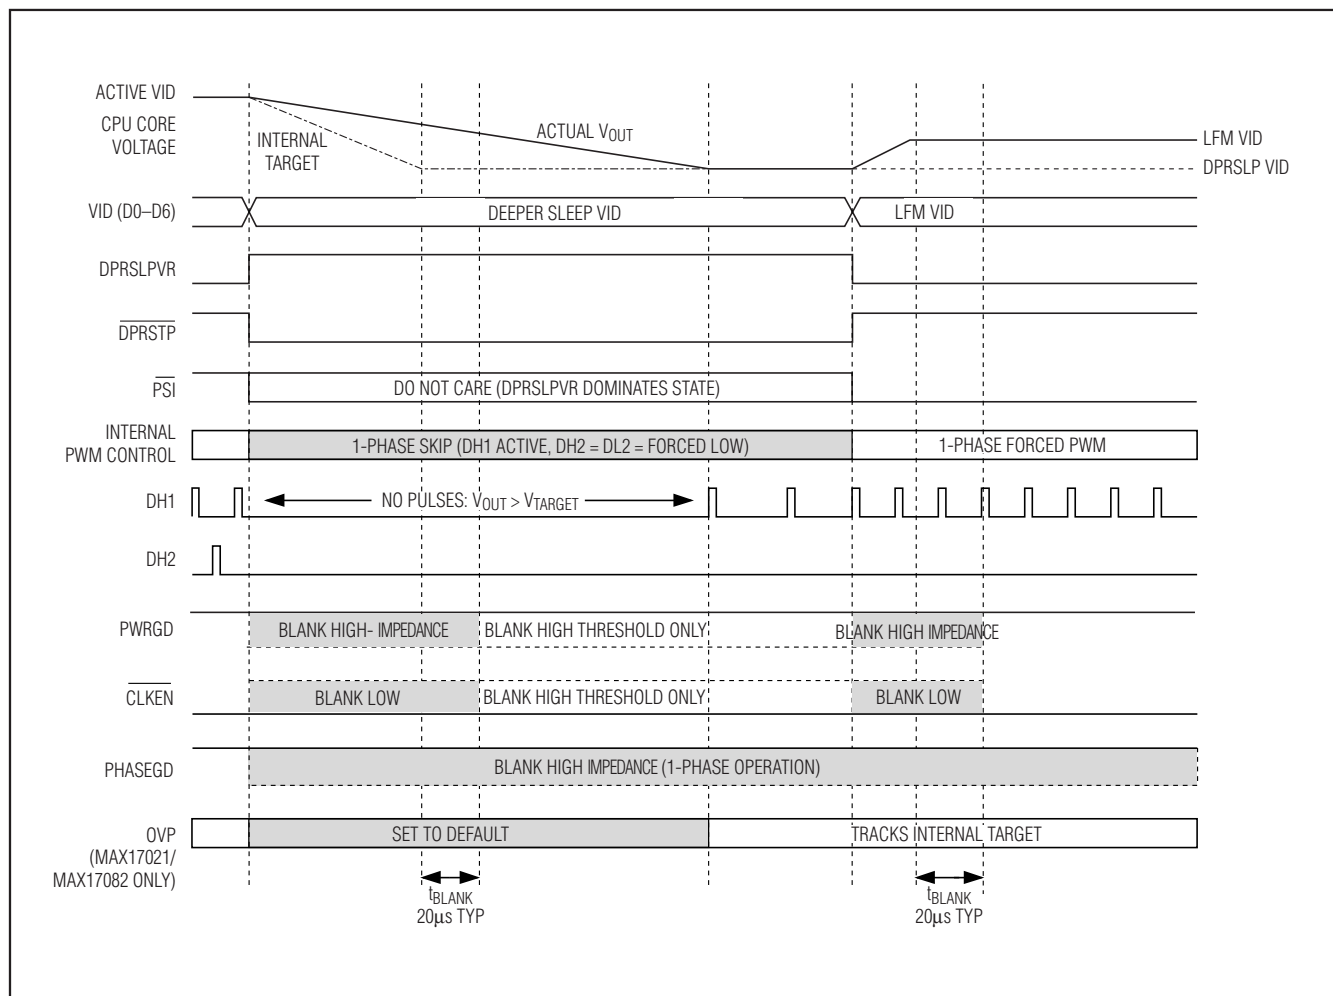

Figure 6. Standard C4 Transition
- Standard C4 Deeper Sleep Exit:** When exiting deeper sleep (DPRSLPVR pulled low) while the output voltage is regulating to the deeper sleep voltage, the MAX17021/MAX17082/MAX17482 immediately activate all enabled phases and ramp the output voltage to the LFM DAC code provided by the processor at the slew rate set by RTIME. The controller blanks PWRGD, PHASEGD, and CLKEN until 20μs after the transition is completed. See Figure 6.